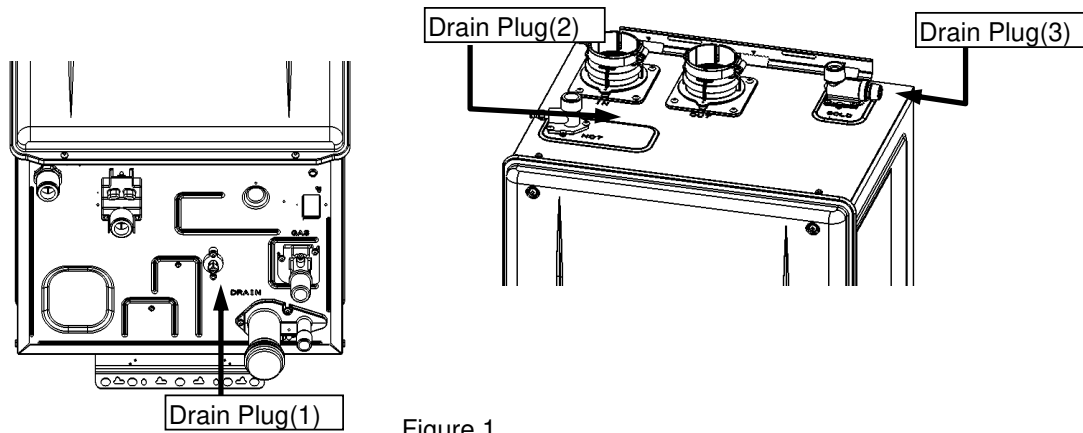

Figure 1
- 2) Open the drain plug(2)and(3). (Figure 1)